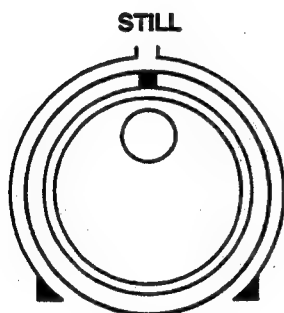

Fig. 1-5 Search/jog knobs position
1. Position the search/jog knob as indicated in Fig. 1-5.
2. Remove the outer rubber ring (tire) ①.
3. Insert a metric hex wrench (1.5 mm) into hole A and loosen the setscrew ②. Remove the jog knob ③.
4. Remove 3 screws ④ and remove the search knob ⑤.
5. Remove 4 screws ⑥ and remove the SEARCH/JOG CONTROL assembly.